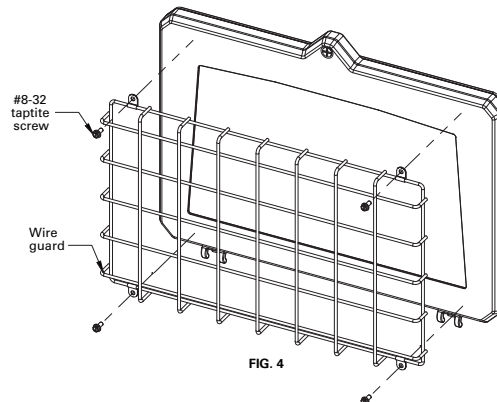

FIG. 4
4. Install wire guard on the door with #8-32 Taptite screws (provided) **FIG. 4**. Re-secure door to link chain. Re-install door by tightening door screw until it comes to a stop.